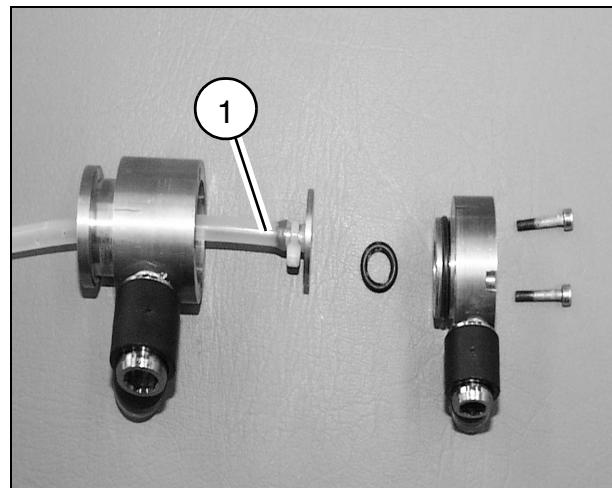

Fig. 22
- Remove the part with the air suction hose (1/Fig. 22).